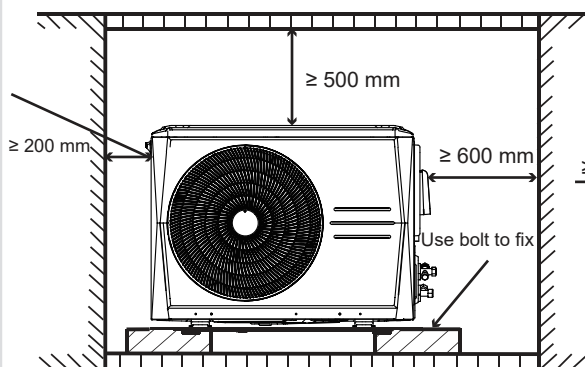

Fig 3-1
3.2.1 Outdoor unit installation and maintenance space, see Fig 3-1 and Fig 3-2 . (Unit: mm)